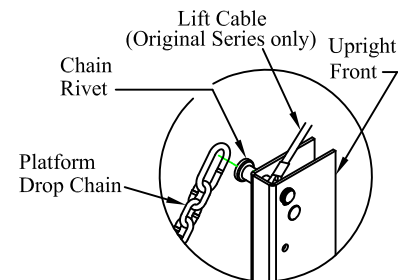

Figure 13: Platform drop chain installation.
4. **Install** the drop chains on the cable chain rivets (Figure 13).